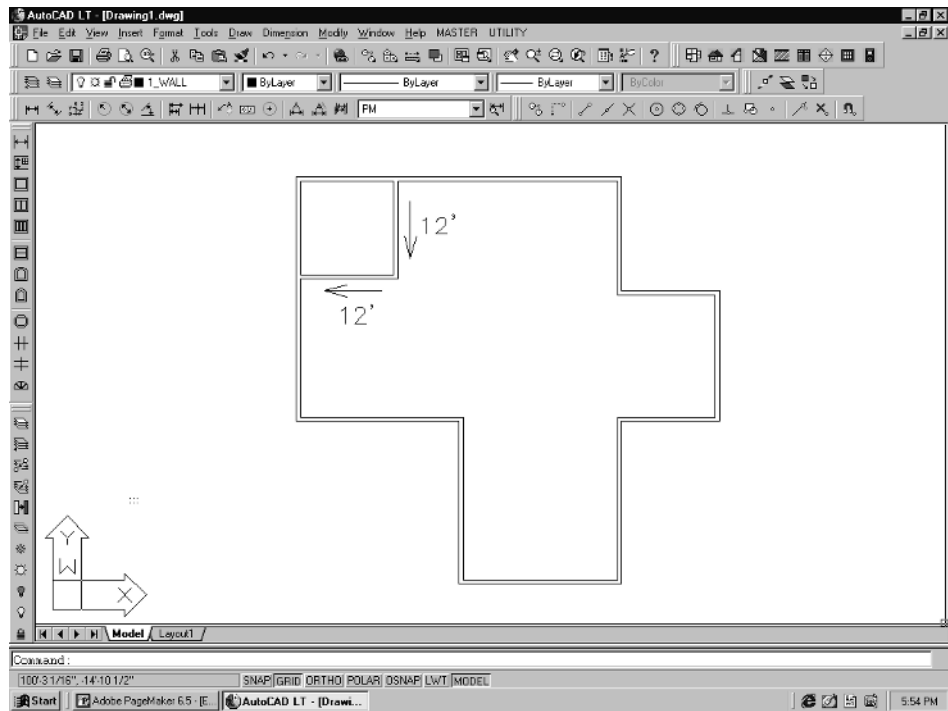

Figure 6-14
11. Pull the cursor **12'** down and pick. The wall will be drawn from the start point. Now pull the cursor **12'** left and pick. This will connect the interior wall to the side wall. (You could also have pulled the cursor down and typed 12', then pulled left and typed 12'.) The command should exit. If not, hit **Enter** to cancel it. The walls should look like Figure 6-14.